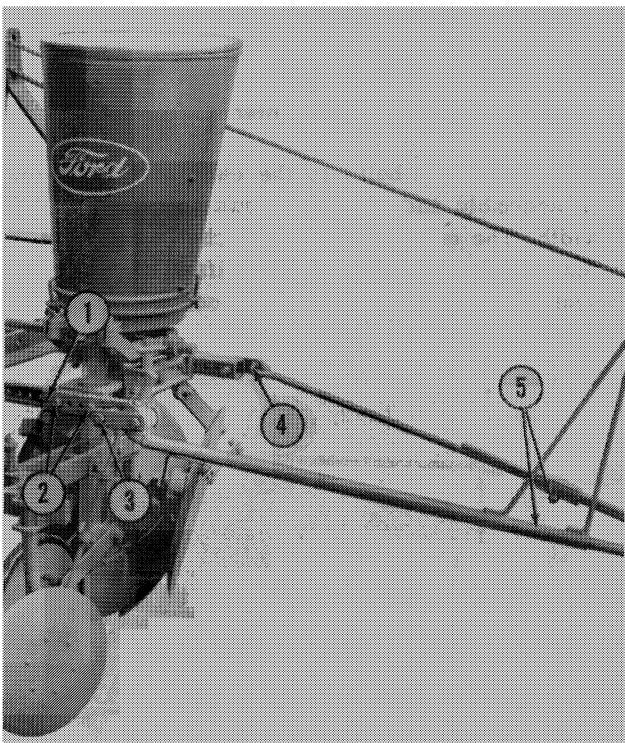

Figure 27
Attaching: The disc and hook marker attachments are attached to the rear and front tool bars on each side of the planter in the same manner. The attaching strap (1), Figure 27, is fastened to the rear tool bar with the bolts (2) (which is already in the rear tool bar) and with the 3/8" x 3" bolt (3). The brace rod retainer (4) is attached to the front tool bar with a 3/8" x 2-1/4" bolt, lock washer, and nut.
Adjustment: The marker assemblies are adjusted for varying row widths by means of a set screw on the telescoping marker rod and a clamp on the brace rod indicated at (5), Figure 27. To adjust the markers, loosen the set screw on the telescoping member and the nut on the brace rod. The disc can now be moved in or out as desired. To vary the pitch of the disc, loosen only the set screw and rotate the disc until the desired pitch is obtained. To secure the adjustment, tighten the set screw and nut.